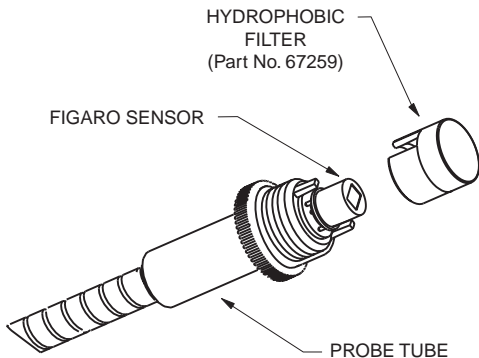

Fig. 12.3 Probe Filter Removal
- 3) Hold the hydrophobic filter between thumb and forefinger then carefully remove filter from probe tube assembly as shown in Fig. 12.3.